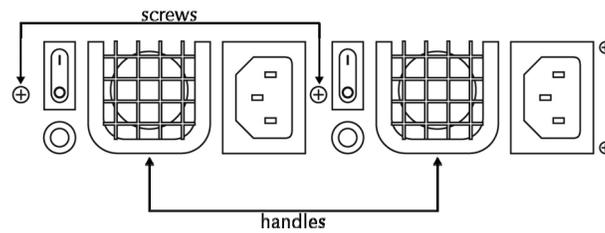

Figure 17. Replacing Power Supply
2. Remove the screw located on the left of the on/off switch (Figure 17).